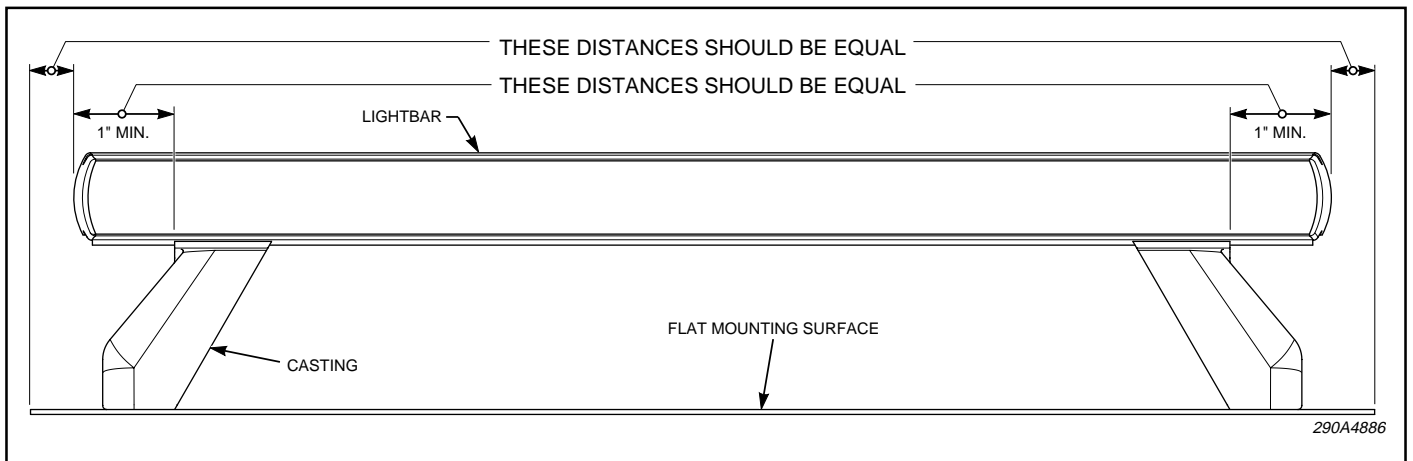

Figure 7.
10. Install the light bar. See figure 7. Refer to your specific light bars instruction sheet for additional information.